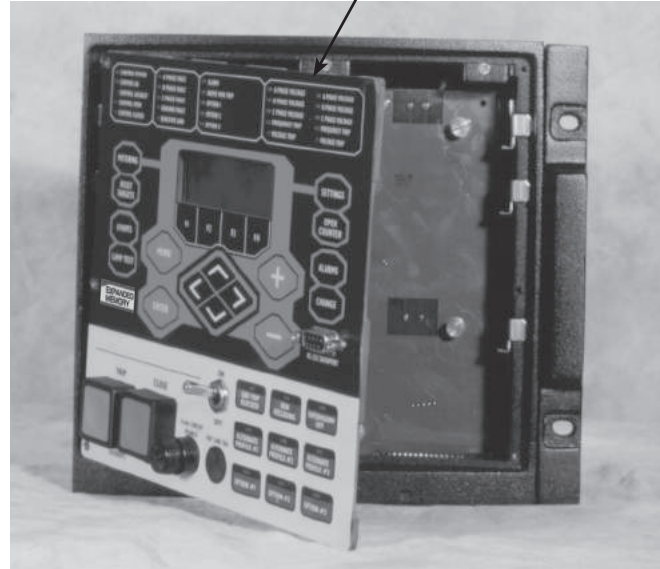

Figure 24. Open front panel. Labels are easily removed from and inserted into the top of the programming panel LED status indicator section
3. Pull the right side of the front panel out towards the left (**Figure 24**).
Note: The insert will slide out of the top of the programming panel indicator section (**Figure 24**).
6. Gently push the removable insert from right to left into the right side of the operating panel (**Figure 25**) or down into the programming panel LED indicator section (**Figure 24**).